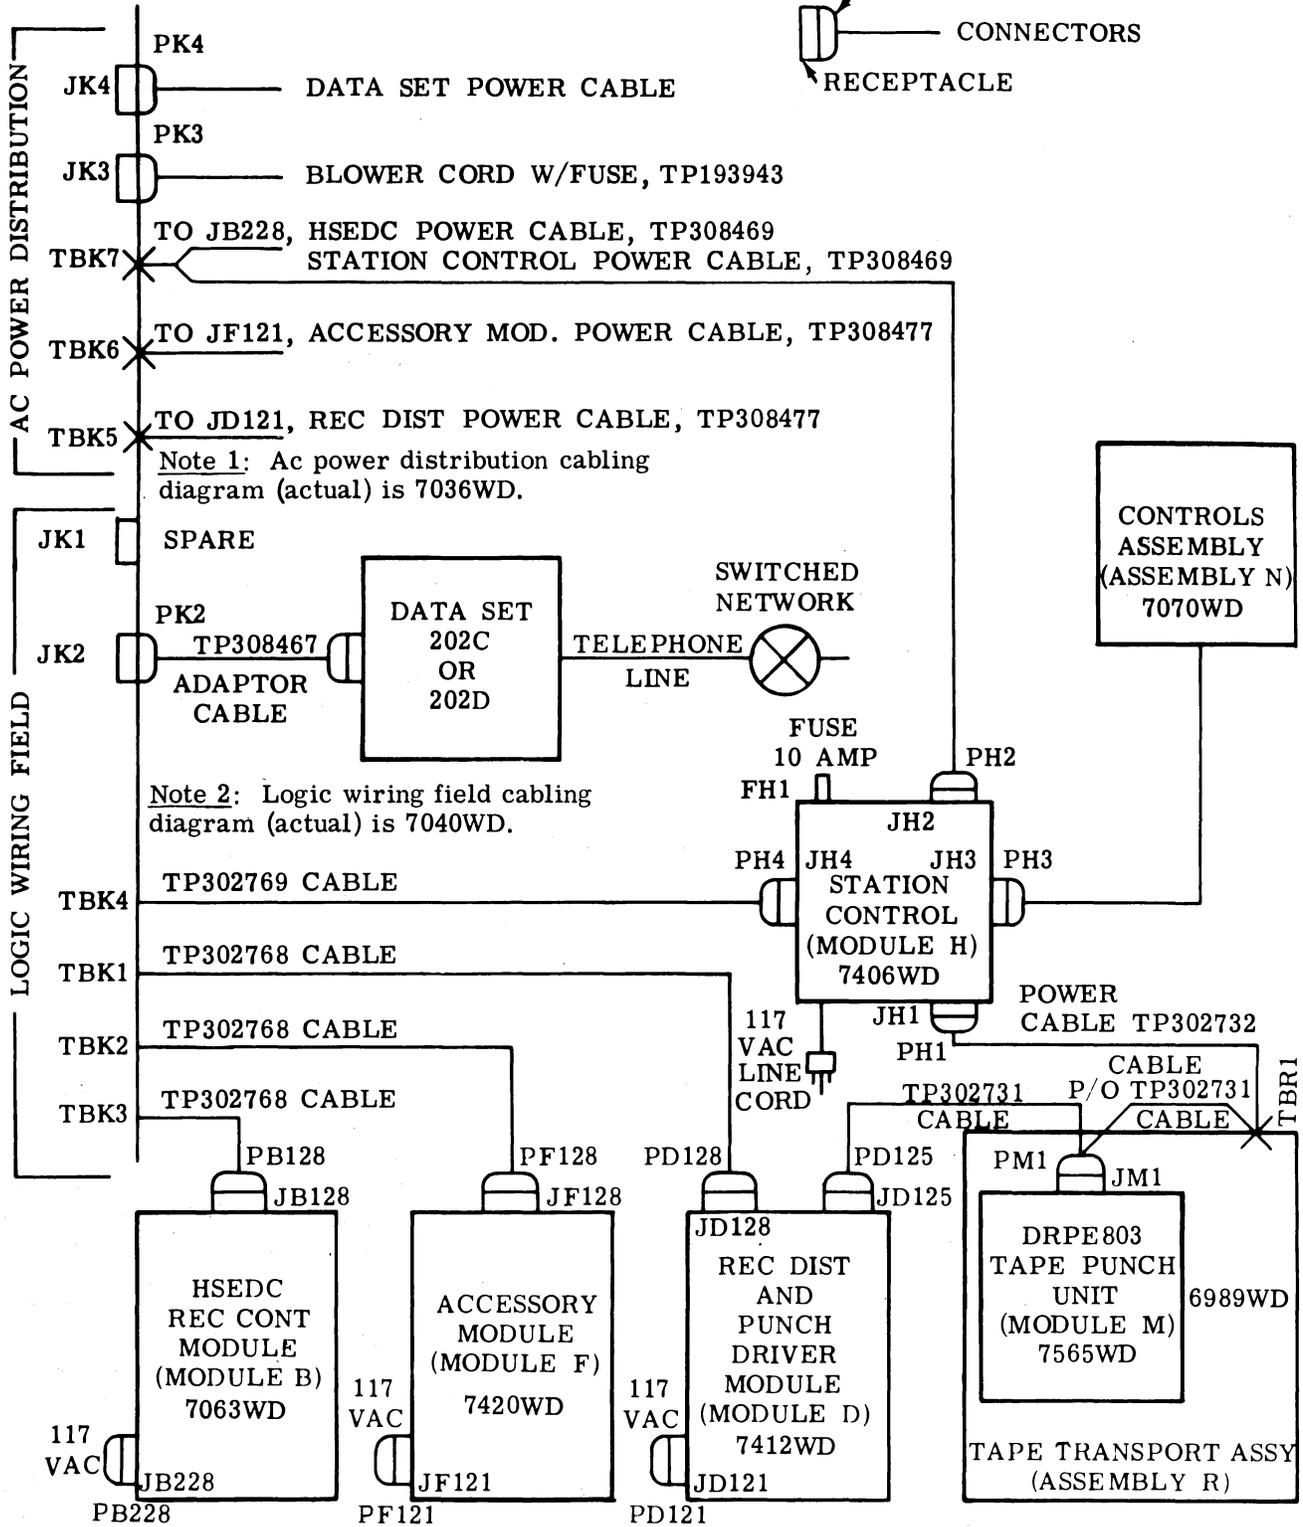

Figure 14 - Receiver Cabling and Schematic Wiring Diagram Reference Numbers
2.27 Module cable connections are shown in Figure 14. Make certain the connectors are rigidly held by their mounting screws. Also refer to the actual wiring diagram 7040WD, given in the appropriate section.